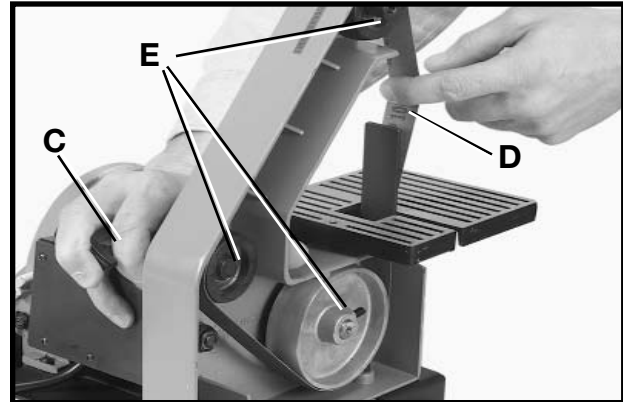

Fig. 24
3. Depress tracking knob (C) Fig. 24, to release belt tension and remove belt (D) from the three wheels (E), as shown.